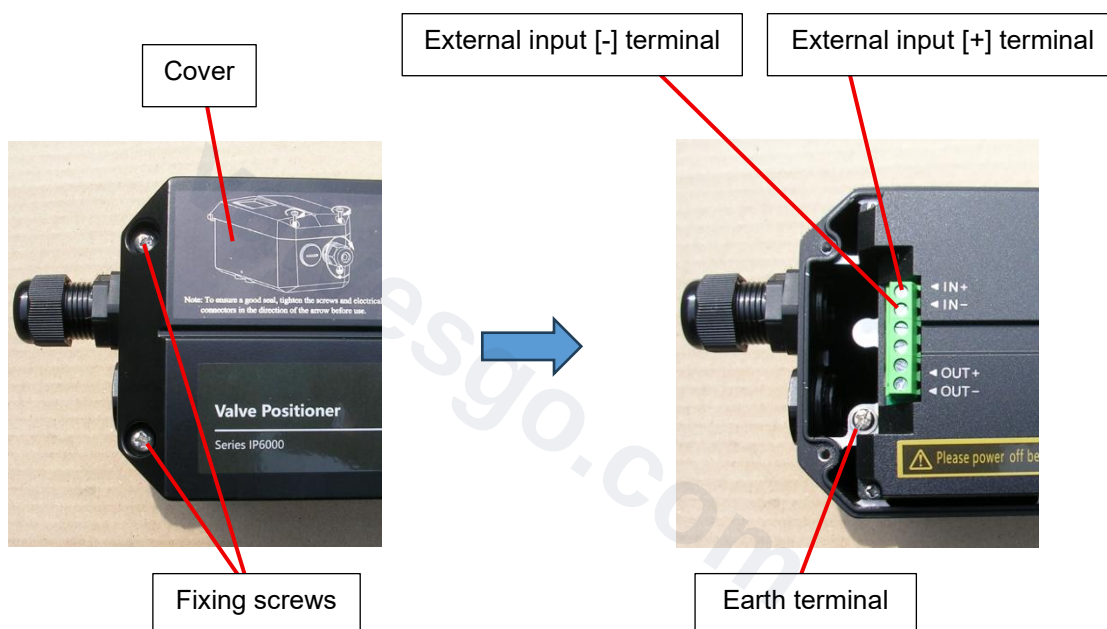

Fig.14
*Terminal wiring method (See Fig.14)
- ① Loosen the two fixing screws on the front of the main unit with a plus(+) screwdriver, then open the cover.
- ② Connect the [+] wire of the external input line to the [◀IN+] terminal on the internal terminal block, and connect the [-] wire to the [◀IN-] terminal. Also, use the earth terminal to connect to earth (external ground). An earth terminal is also provided on the side of the enclosure.
- ③ After connecting the external input wires, close the terminal box cover again using a plus(+) screwdriver.